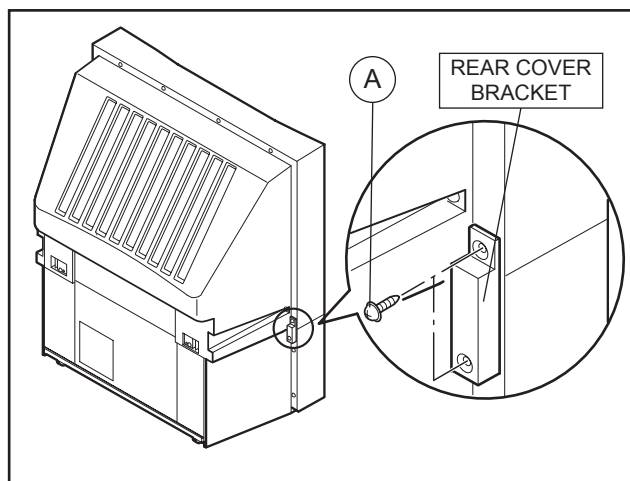

Fig.1
- (1) Remove the 2 screws [ **A** ] on the left rear side of the set, and then remove the rear cover bracket. [Fig.1]